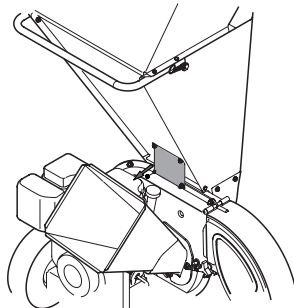

Figure 9
2. Remove the two flange nuts (and hex bolts) which secure the hopper support bracket to the impeller housing. Retain the hardware. See Figure 9.